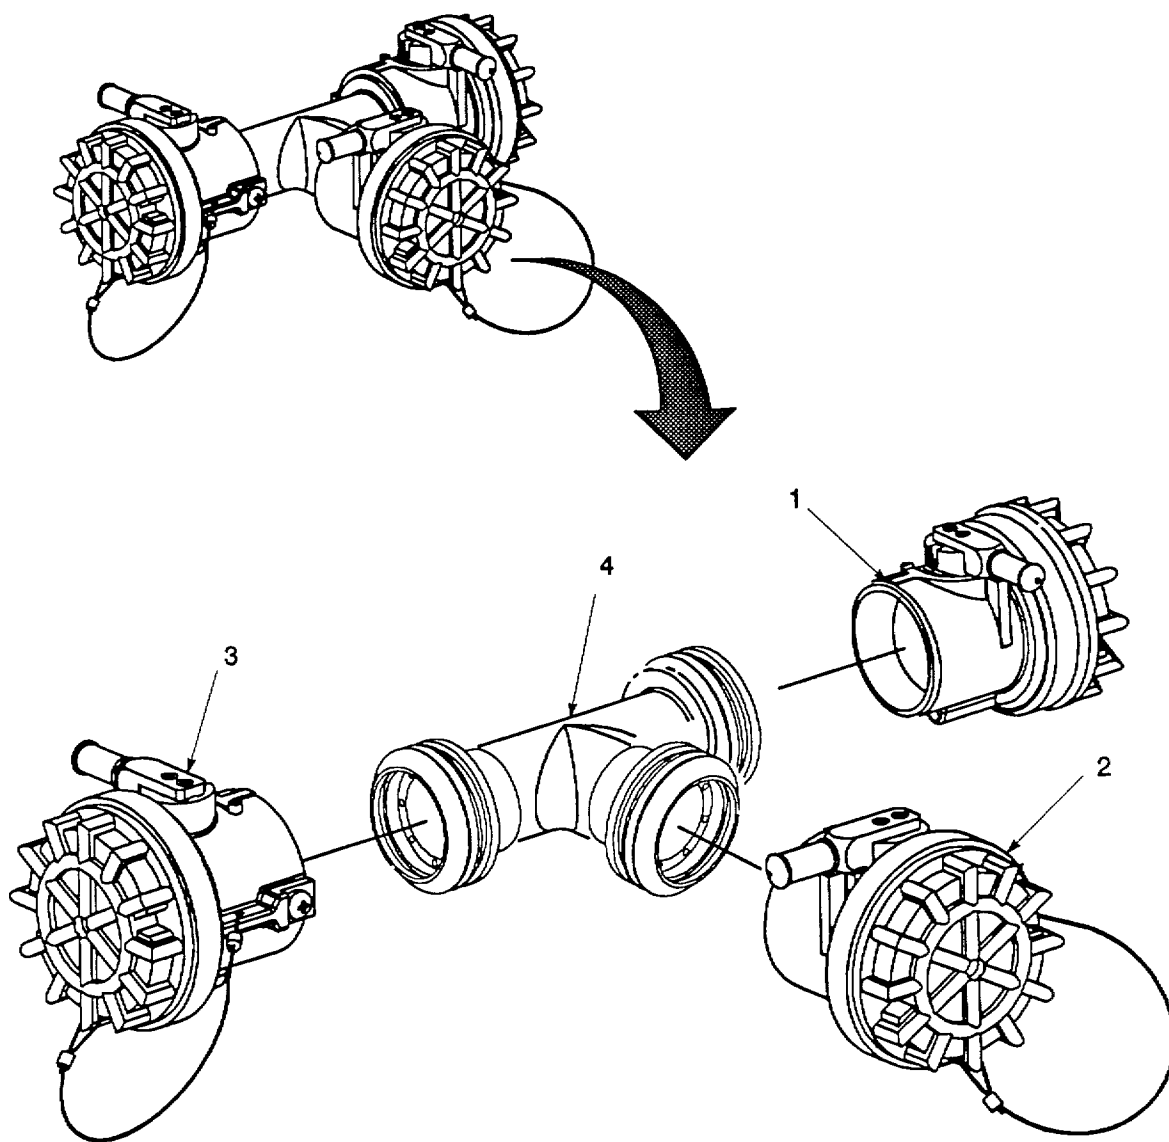

Figure 4-20. Tee Assembly Repair.
- a. Disassembly. Refer to figure 4-20.
- (1) Remove valved dry break coupling (1) from tee body (4) (para 4-14).
- (2) Remove valved dry break coupling (2) from tee body (4) (para 4-14).
- (3) Remove valved dry break coupling (3) from tee body (4) (para 4-14).
- c. Inspection. Refer to figure 4-20.
- (1) Inspect valved dry break coupling assemblies (1, 2 and 3) for cracks, corrosion and damaged coupling bodies. Check sealing surfaces for scratches.
- (2) Inspect tee body (4) for cracks, splits, pitting, and corrosion.
- d. Repair. Refer to figure 4-20.
- (1) Replace damaged or defective tee body (4).
- (2) Repair valved dry break coupling assemblies (1 and 2) in accordance with para 4-18.
e. Assembly. Refer to figure 4-20.
- (1) Install valved dry break coupling (1) on tee body (4) (para 4-14).
- (2) Install valved dry break coupling (2) on tee body (4) (para 4-14).
- (3) Install valved dry break coupling (3) on tee body (4) (para 4-14).
- (4) Install tee assembly in fuel system (para 3-4b).